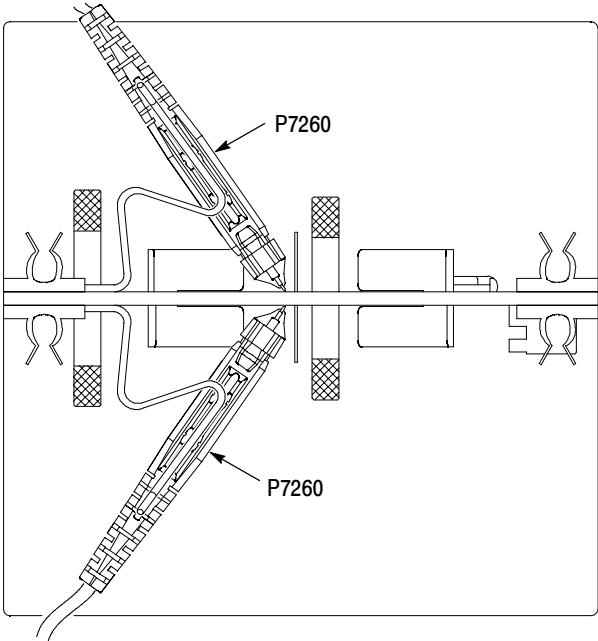

Figure 8: P6249, P7240 or P7260 on each side of the fixture, with tips
- d. Perform substeps a through c for deskewing a second probe. See Figure 8 on page 9.
7. Perform steps 1 through 6 to calibrate a second probe at the same time. See Figure 8 on page 9.